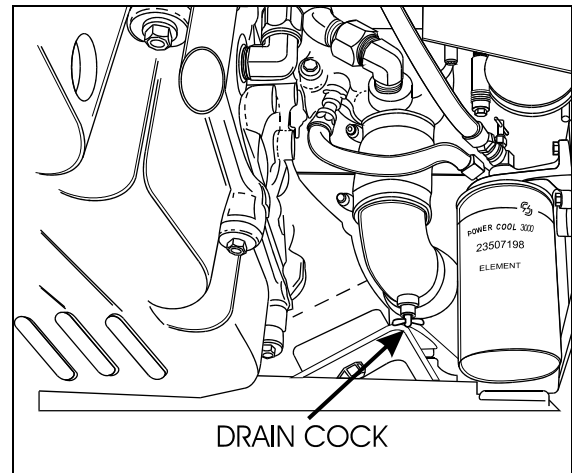

FIGURE 8: UNDERNEATH ENGINE 05060
3. Open the water pump housing inlet line drain cock (Fig. 8).